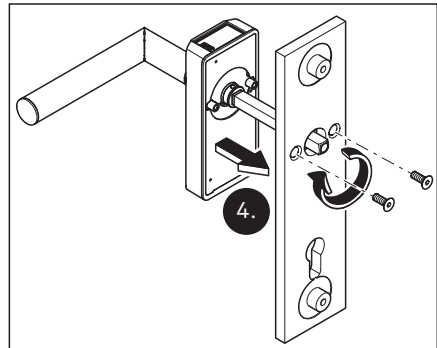

Fig. 31 Attaching the c-lever compact to the screw-on plate
4. Attach the c-lever compact to the screw-on plate and fix in place with 10 Nm (Fig. 31).